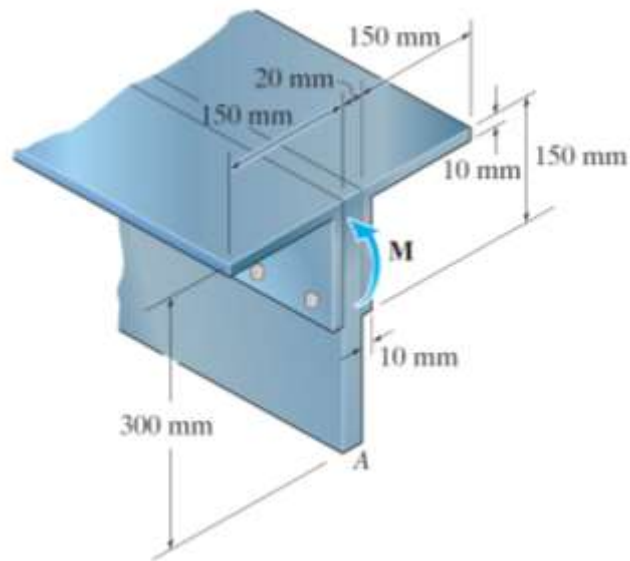

Figure Q2a
- (a) Figure Q2a shows a beam that is subjected to an internal moment of $M = 75 \text{ kNm}$, determine the maximum tensile and compressive stress acting in the beam.